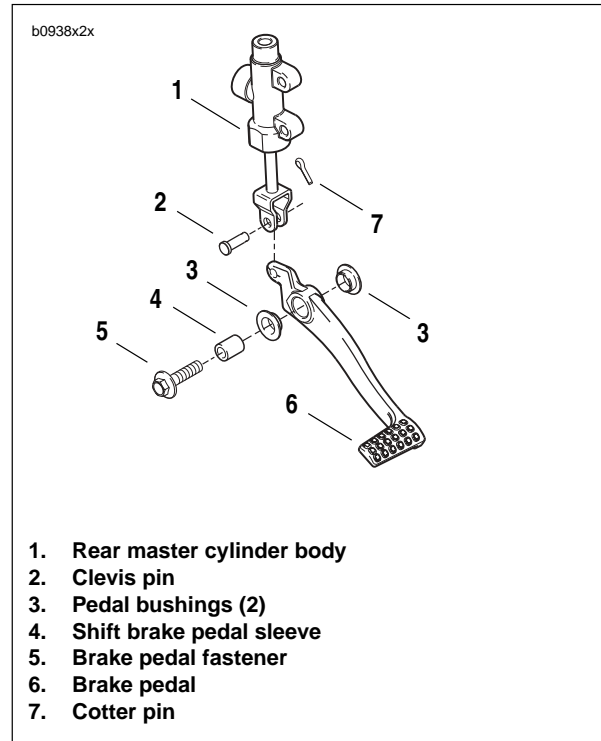

Figure 2-36. Brake Pedal Assembly
1. See Figure 2-36. Remove cotter pin (7) and discard.
2. Remove clevis pin (2).
3. Remove pedal fastener (5).
4. Remove shift brake pedal sleeve (4).
5. Remove pedal bushings (3).
6. Remove brake pedal (6).
1. See Figure 2-36. Install pedal bushings (3).
2. Install shift brake pedal sleeve (4).
3. Install brake pedal (6) using LOCTITE 271 (Red) and tighten fastener (5) to 22-24 ft-lbs (30-33 Nm).
4. Install clevis pin (2).
5. Install **new** cotter pin (7).